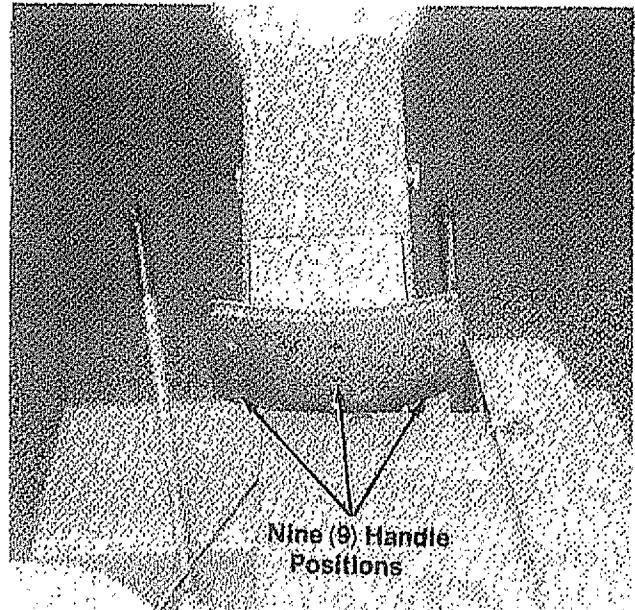

FIGURE 23.
A. Squeeze up on handle adjustment lever and place the handle in one of nine (9) positions. See figures 23, 24, 25 and 26.
Figure 23 is viewed from the front of tiller for clarity.